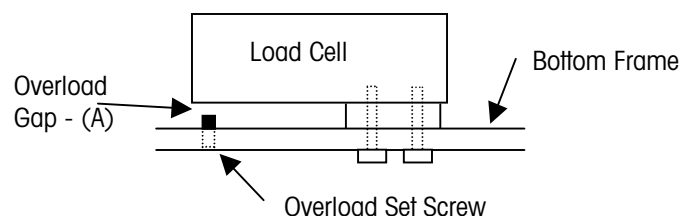

Figure 4-1: Center Overload Stop Position (1 Only)
3. Using the proper size feeler gauge, check all five overload stops as shown in Figures 4-1 and 4-2 on the next page. The correct gap measurements can be in Table 4-2.
5. If the center overload stop is out of adjustment, simply adjust the set screw under the load cell until you feel a slight drag on the feeler gauge. Refer to Figure 4-1.